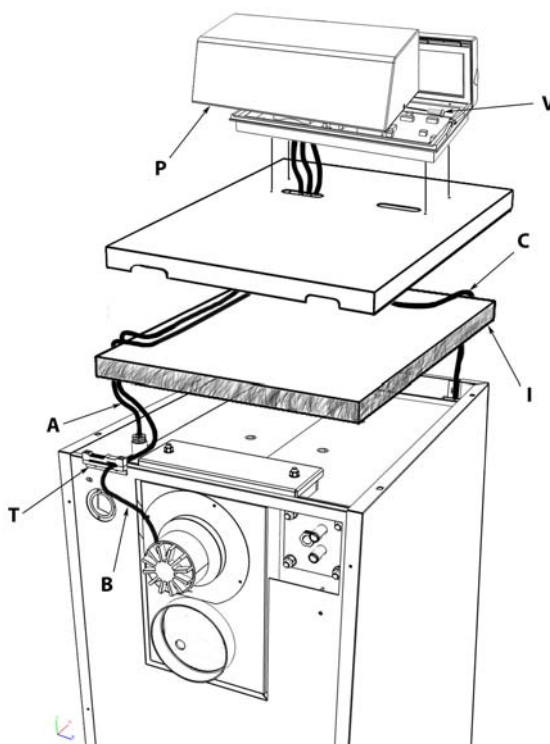

fig. 4 - Fitting the control panel
2. Arrange the cables of the fan "B", the sensor "A" and the door microswitch "C" as shown in fig. 4